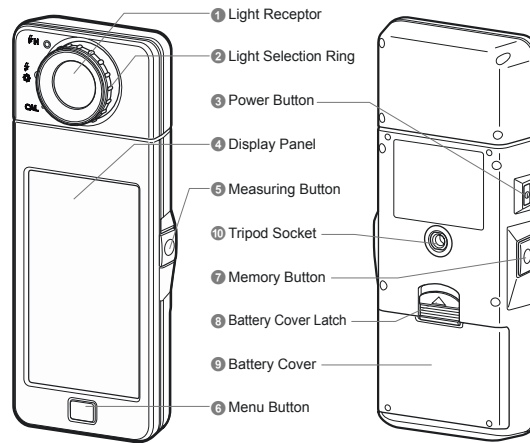

Figure 4.4: CRI Illuminance-meter KONICA-MINOLTA CL-70F. Schematic from the datasheet given by the manufacturer.
The CRI Illuminance-meter at your disposal (see fig. 4.4) allows you to both quantify and analyze the spectral components of a source in order to deduce, after some numerical calculations,
- Switch on the instrument CL-70F KONICA-MINOLTA (*Power Button* ③).
- Realize the calibration of the instrument by selecting CAL with the rotating ring ② , fig. 4.4).
- Orient the sensor (behind the white diffusive plate) towards the source and click on ⑤: *Measure*.